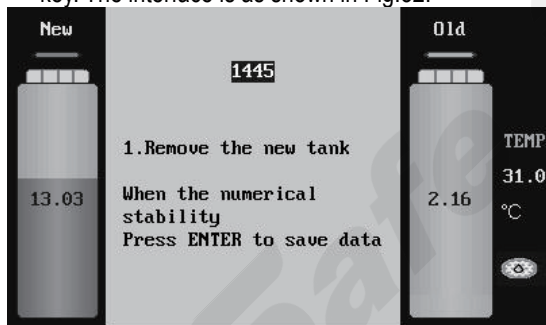

Fig.32
- 3) According to the prompts on the interface, enter the weight value of the weight, and then press ENTER key. The interface is as shown in Fig.32.